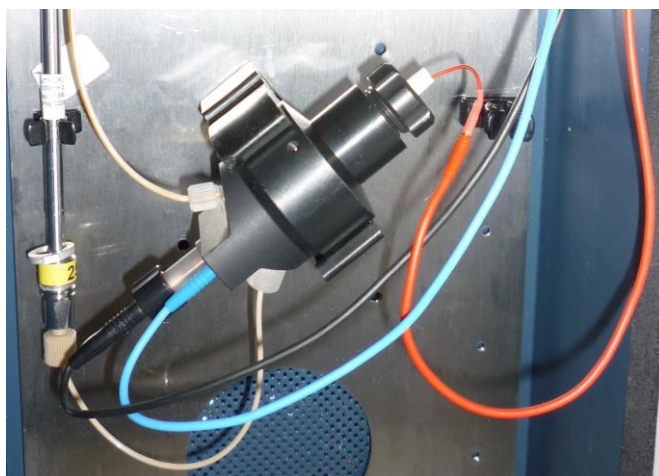

Fig. 6. Flow cell with cell cable connected. WORK, AUX and REF electrodes are respectively connected using the red, blue and black lead of the cell cable.
9. Place the cell under an angle of 45° in the detector oven compartment with the outlet higher than the inlet port and connect the cell cable as illustrated in Fig. 6.